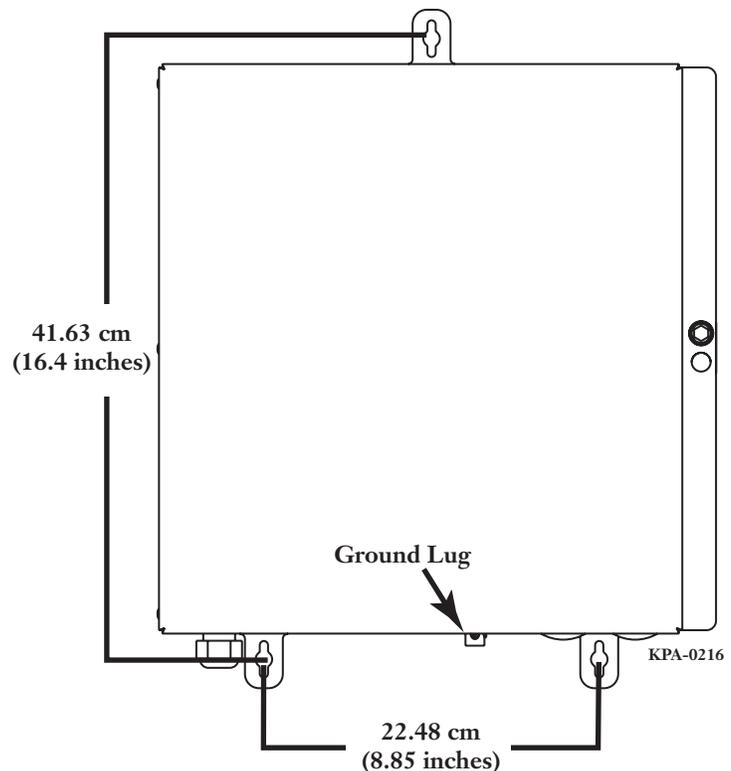

Figure 1 — Mounting Template
- Step 2** Using the dimensions from the template in Figure 1, loosely install the mounting hardware into the mounting surface/wall. Leave approximately $\frac{1}{8}$ inch of clearance behind the screw head and hang the cabinet on the hardware through the keyhole openings in the external mounting ears.